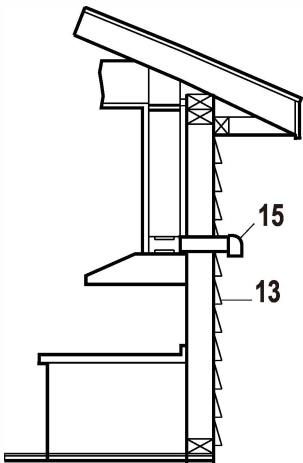
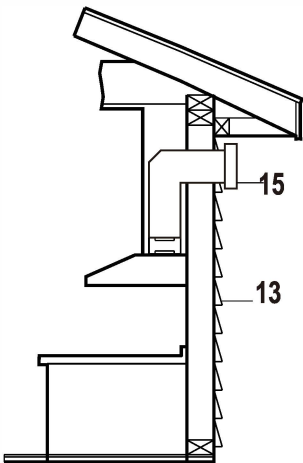
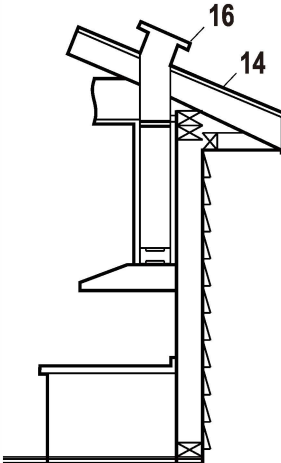

Fig.5
Fig.6
Fig.7
- Your venting system must vent to the outdoors either horizontally through the back wall (13) or vertically through the roof (14)
- (refer to Fig. 5/Fig. 6/Fig. 7).